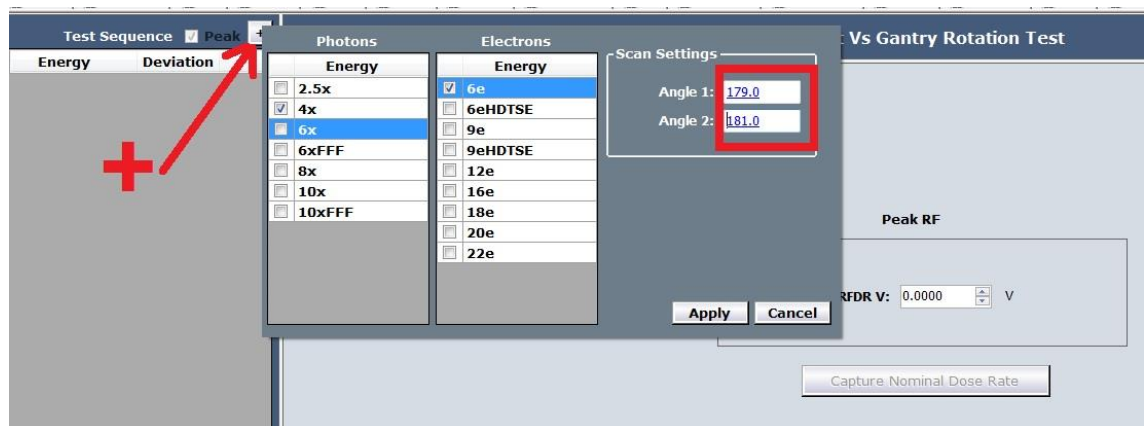

Figure 14: Selecting Energies and Setting Rotation Angles
4. Click on the + icon (see Figure 14). In the pop up window, check energies to be tested (Low X-ray Imaging, X-Ray 1 and Lo-e). Set the Angle 1 to 179° and Angle 2 to 181°. This will set the Start/Stop point between the 2 angles covering 358° of gantry rotation. Click Apply when done.